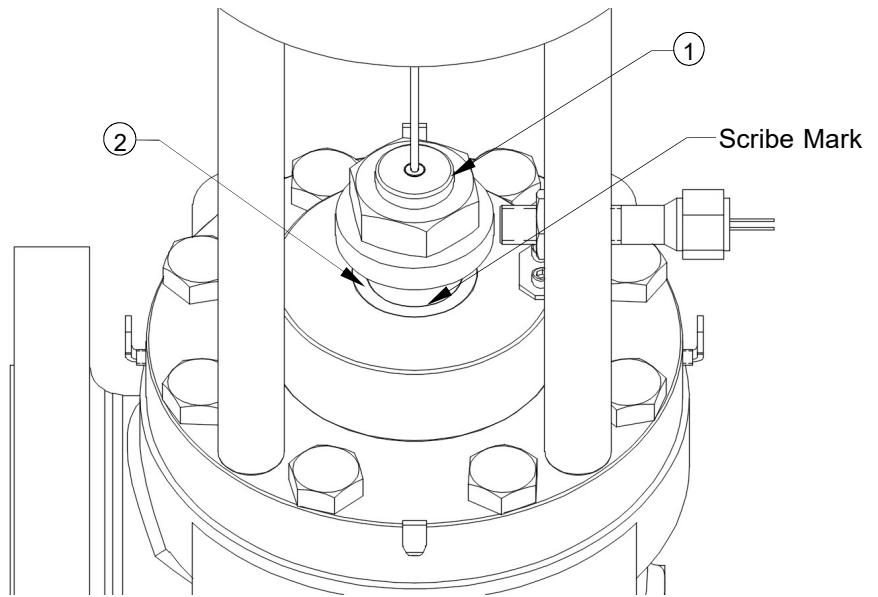

Figure 7: Plug scribe mark location at fully reseated
5. Ensure the scribe mark as shown in Figure 7 above flush within 0.125" distance from Bushing top surface (Item 2 of Figure 7). If not, the Buckling Pin installation must be stopped and BPAV may require cleaning or servicing - shall contact BS&B Pressure Safety Management, L.L.C. for assistance.